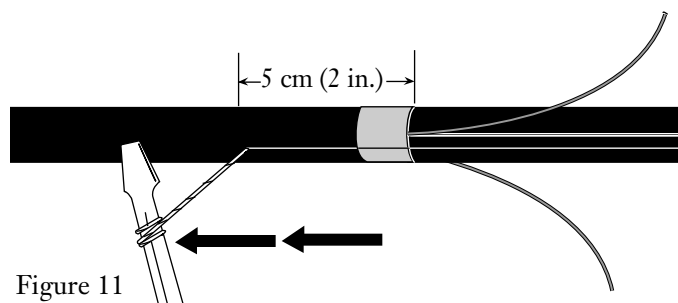

Figure 11
4.14 Using the shaft of a screwdriver as a handle, pull the rip cord through the armor and outer sheath to 5 cm (2 in.) past the tape wrap on the outer sheath (Figure 11). The extra 5 cm (2 in.) of split sheath will permit the ground clamp to slide easily under the armor in a later step.